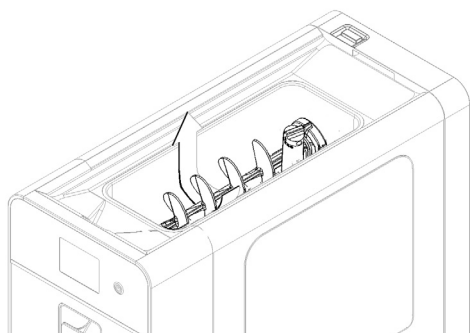

figure 17
- 2 If present, remove the upper basin mixer. (see figure 17)